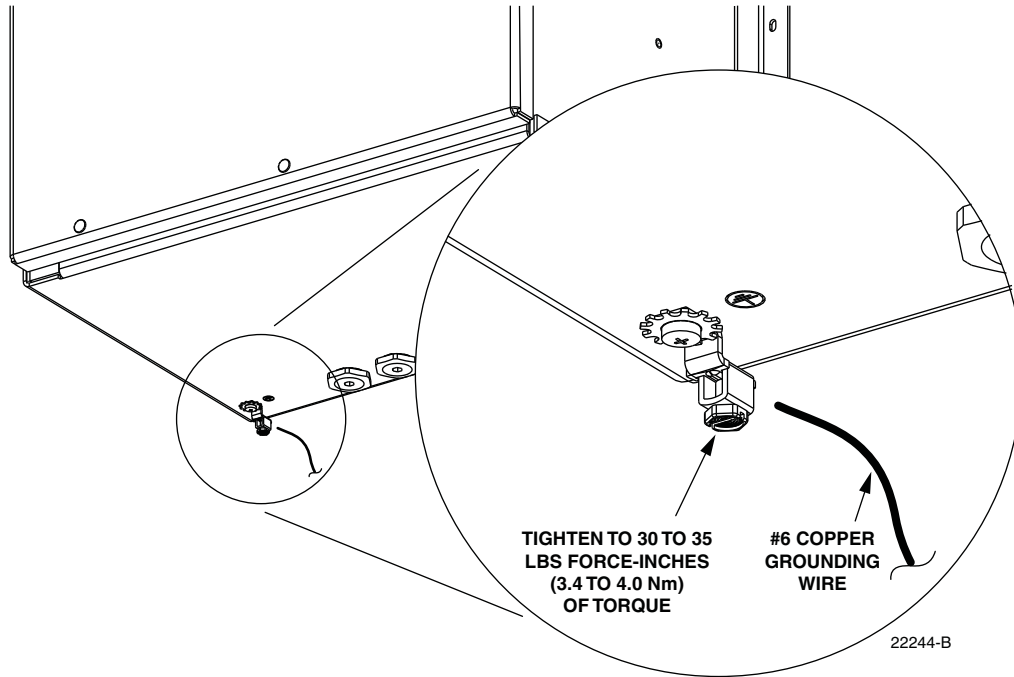

Figure 6. Grounding Wire Connection To Cabinet
1. Locate the grounding lug which is mounted on the underside of the cabinet as shown in Figure 6.